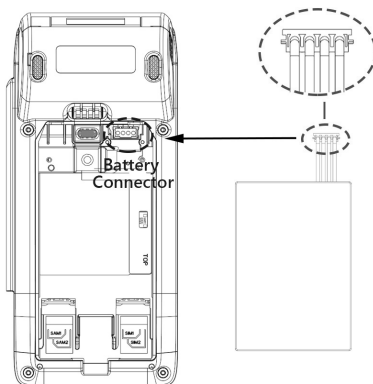

Figure 10
STEP 1: Insert the battery connector into AT100 with correct direction as Figure 10.